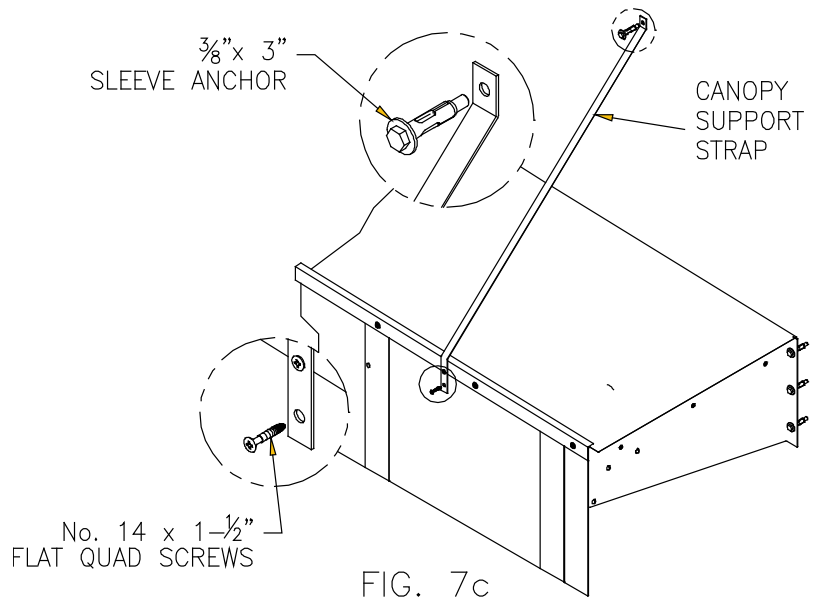

FIG. 7c
- Attach lower end of canopy strap to face of header at about 2ft. in from the edge. Use No.14 x 1-1/2" flat quad screws & tighten using #3 Philips or #3 Roberts driver bit (Fig. 7c).
- Using a 3/8" masonry drill bit, drill hole for 3/8"x3" sleeve anchor (Fig. 7c).